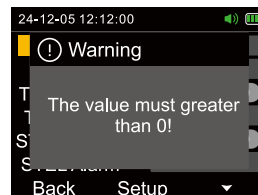

Fig 17
b. The low alarm value must be greater than 0. If set to 0, a warning dialog box will pop up (see Figure 17).
d. The TWA and STEL threshold values must be greater than 0. Setting them to 0 will trigger a corresponding warning dialog box (see Figure 17).